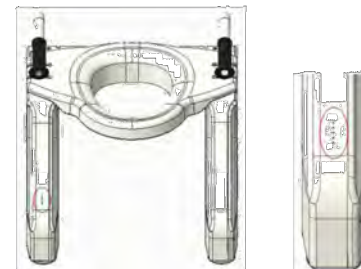

Figure 3 Power quantity display
- 5) The power display is located in the position shown in Figure 3. To save power, the battery is only displayed during the operation of the device. The display only shows the last lamp, and when it is red, it means that the battery is low and need to be charged immediately.